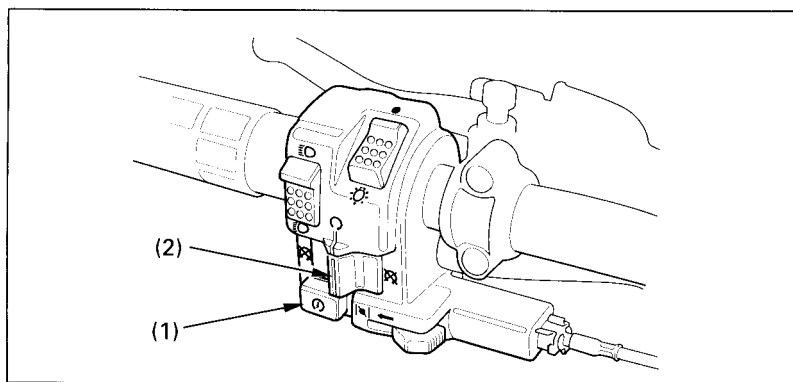

Fig. 2-8 (1) Starter button (2) Engine stop switch
The starter button (Fig. 2-8) is below the engine stop switch. To start the engine, press the starter button (1), with the transmission in neutral, the ignition switch I (ON) and the engine stop switch (2) at O (RUN).